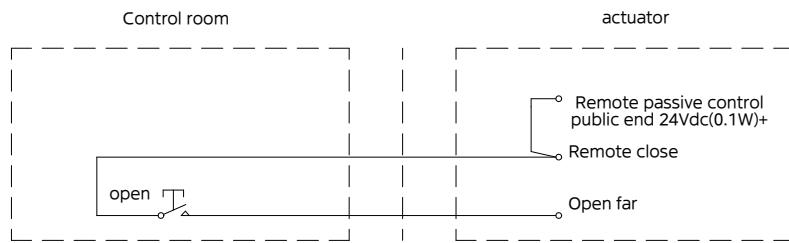
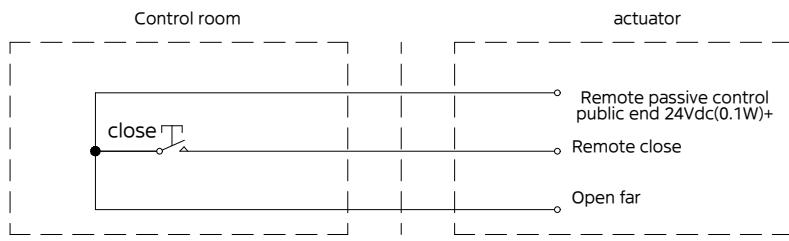
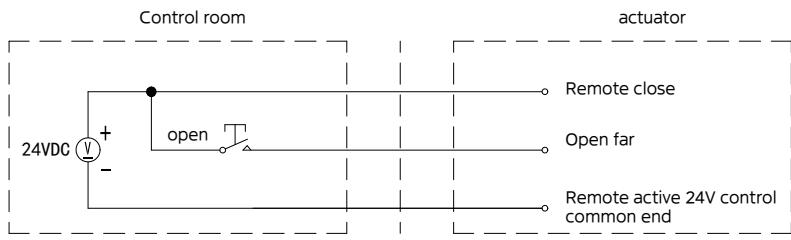
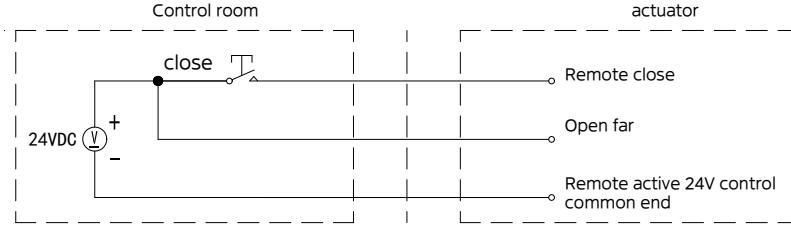

Figure 7 Two-wire control, with a letter open, no letter close
Figure 8 Two-wire control, with a letter off, no letter open
Figure 9 Two-wire control, on and off
Figure 10 Two-wire control, with a letter off, no letter on
7.1.3 Two-wire control, the cable can be connected according to Figure 7, Figure 8, Figure 9, Figure 10. The two lines in the menu should be set to "open" or "Close" according to actual needs.